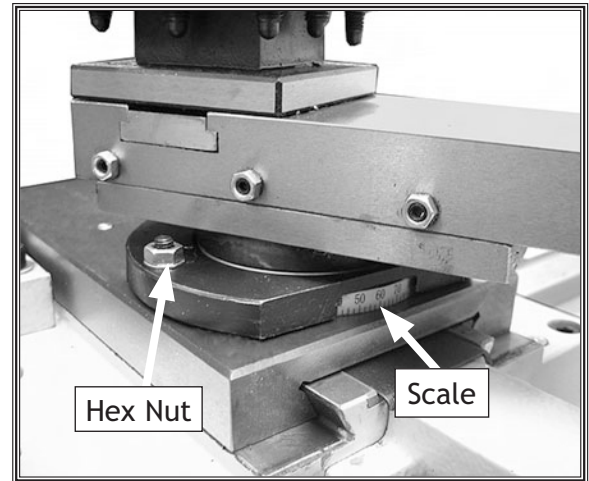

Figure 25. Compound rest, scale, and hex nuts.
1. Loosen the hex nuts on each side of the compound rest (see **Figure 25**).